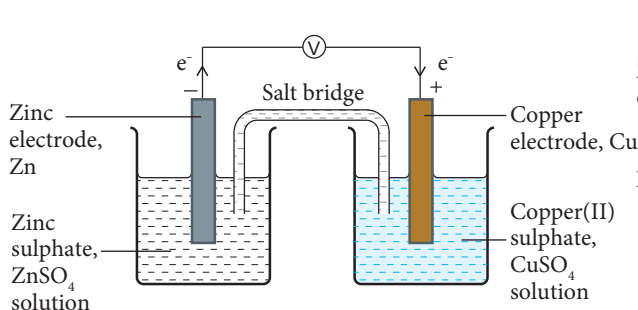

Figure 1.18(a) A Daniell cell that uses a salt bridge
- Figure 1.18 (a) shows a Daniell cell that uses a salt bridge and Figure 1.18 (b) shows a Daniell cell that uses a porous pot.